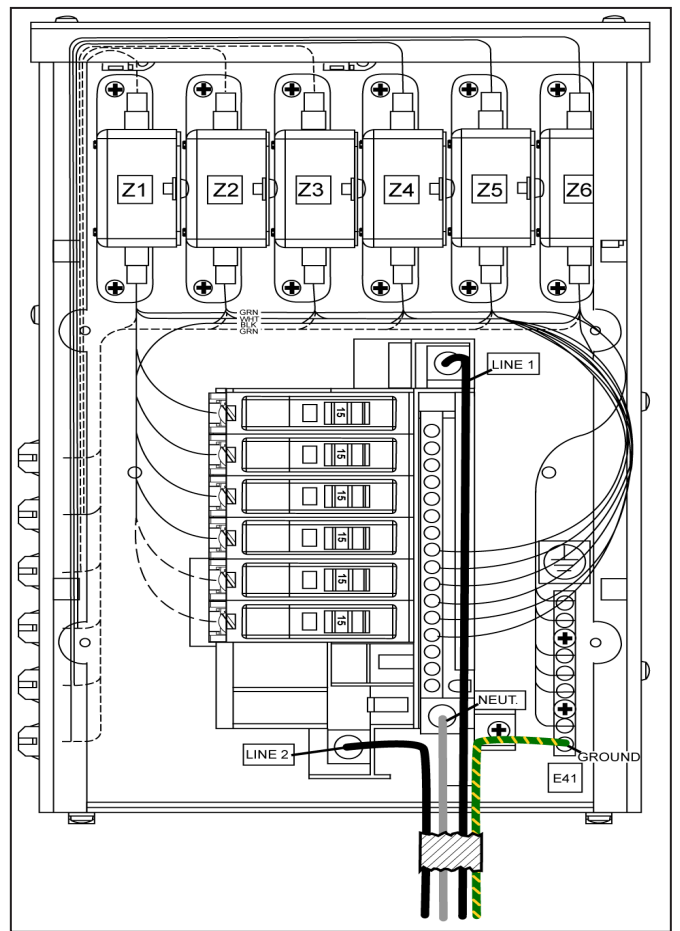

Figure 5: Single-phase 6-breaker Domestic Panel
4. The ground wire connects to the grounding bus bar. Refer to **Figure 5** for an example.